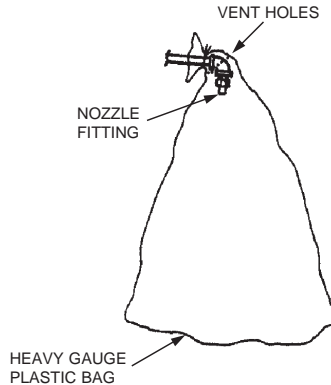
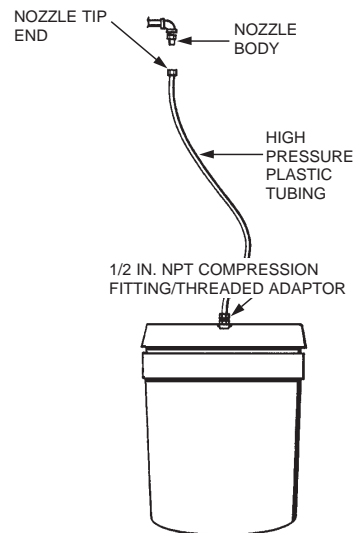

FIGURE 7-2
FIGURE 7-3
7. To perform the flushing procedure, either secure heavy-duty plastic bags to each nozzle (See Figure 7-2) or remove each nozzle tip and strainer and attach plastic tubing. See Figure 7-3.